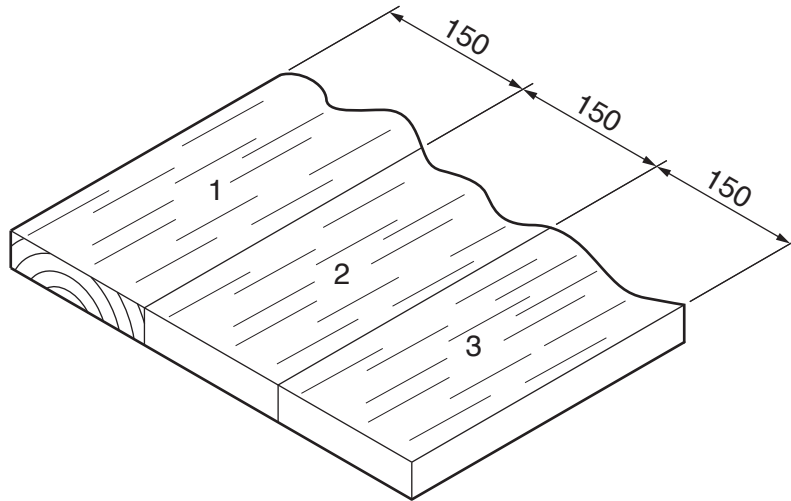

Fig. 2
- 4 Fig. 2 shows three boards that will be glued together to make a solid wood table top.
- (b) Complete Fig. 2 by drawing the end grain on boards 2 and 3 so that the table top would remain stable. [2]